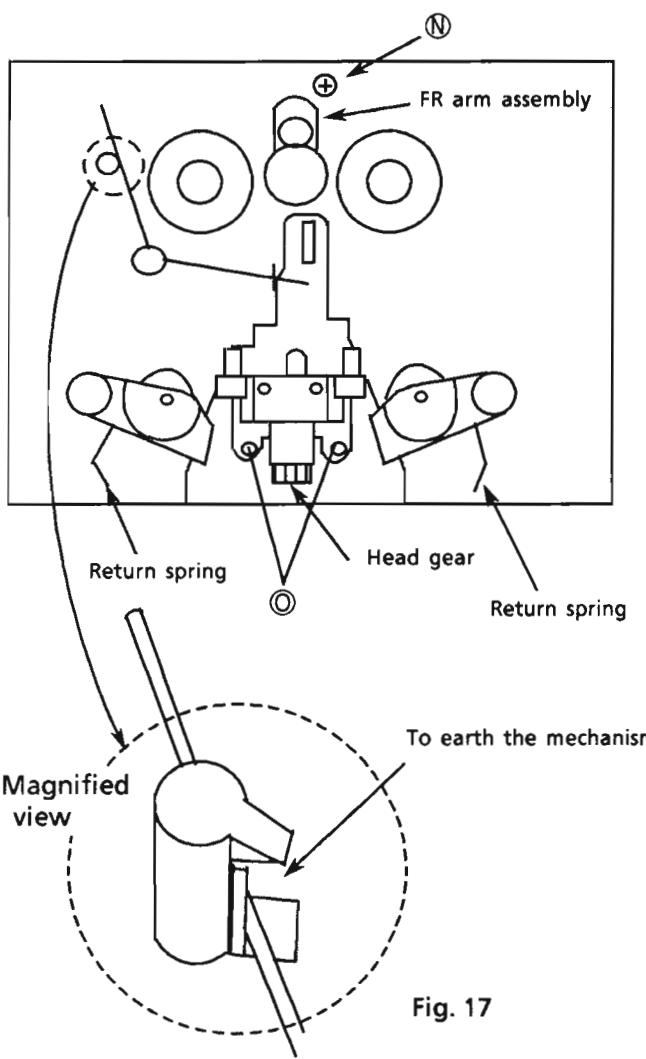

Fig. 17
3. Remove the 2 screws  $\odot$  fixing the head assembly (Fig. 17).
1. Release the return spring (Fig. 17).
3. Remove the FR arm assembly (Fig. 17).
4. Remove the screw  $\odot$  fixing the motor (Fig. 17).